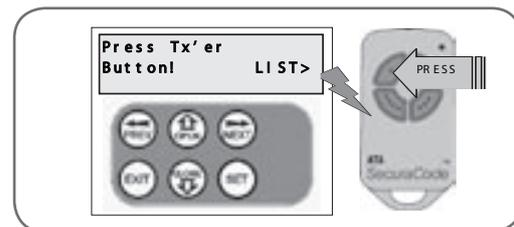

fig 47
3. Press transmitter once (Fig. 47).